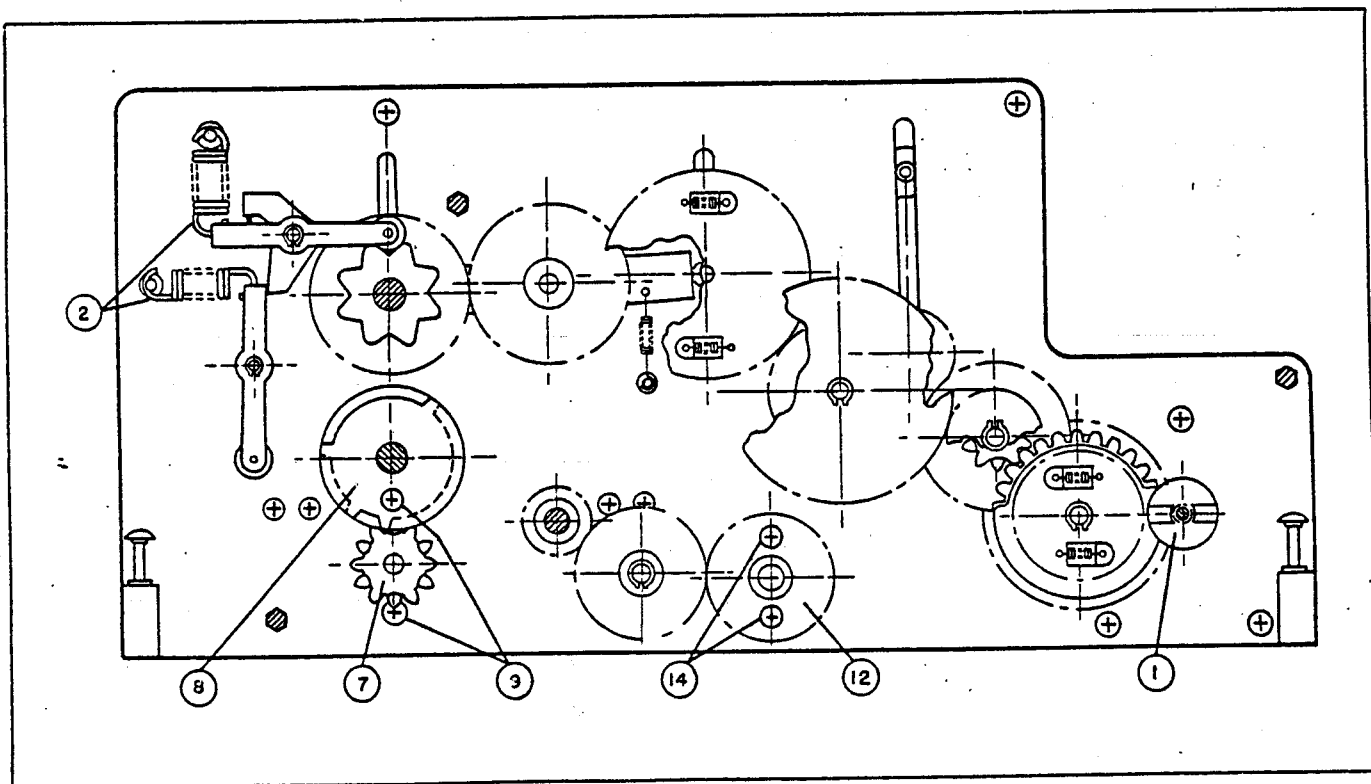

Figure 3-5. R-F and I-F Tuner Assembly, Middle Plate, Front View
- c. Remove gear (item 7) and cam assembly (item 8, figure 3-5).
- d. Remove two screws (item 9, figure 3-5).
- d. Remove the two screws securing the i-f switch to the middle plate. (See item 14, figure 3-5.)
b. Replace the i-f switch in the position from which removed and secure to the middle plate with two screws (item 14, figure 3-5).
c. Secure the r-f switch to the middle plate with two Phillips head screws (item 9, figure 3-5).
e. Replace gear (item 7) and cam assembly (item 8) as illustrated in figure 3-5.